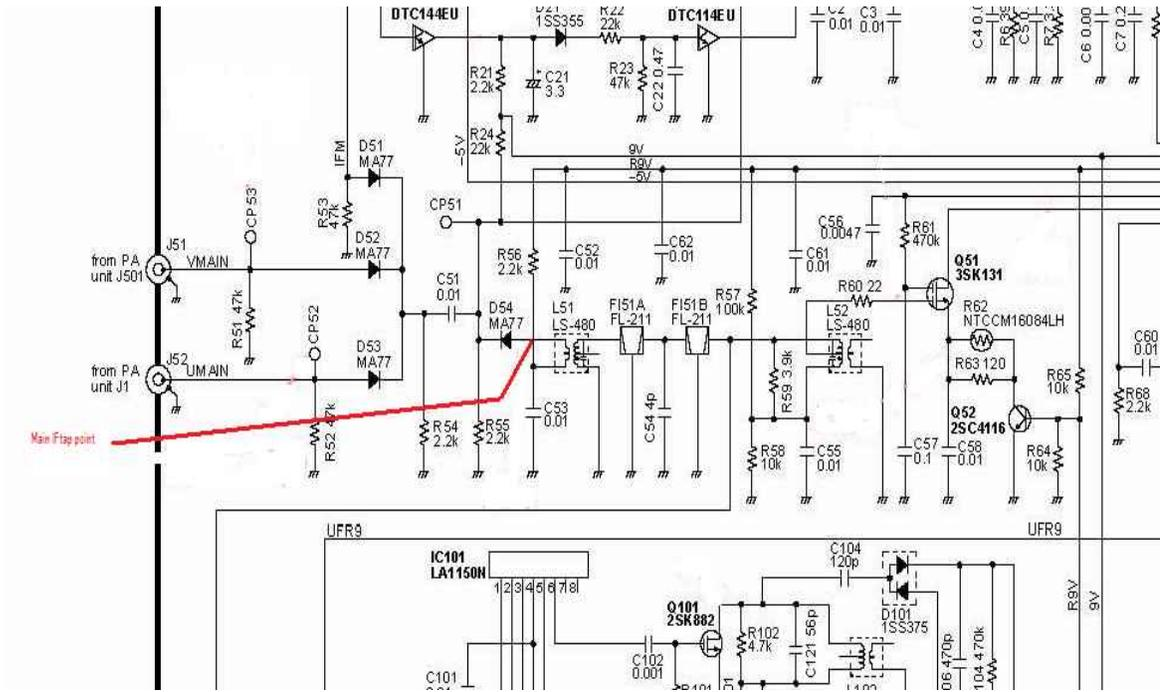

Figure 2
From the MAIN UNIT (2) circuit diagram (Fig.2).